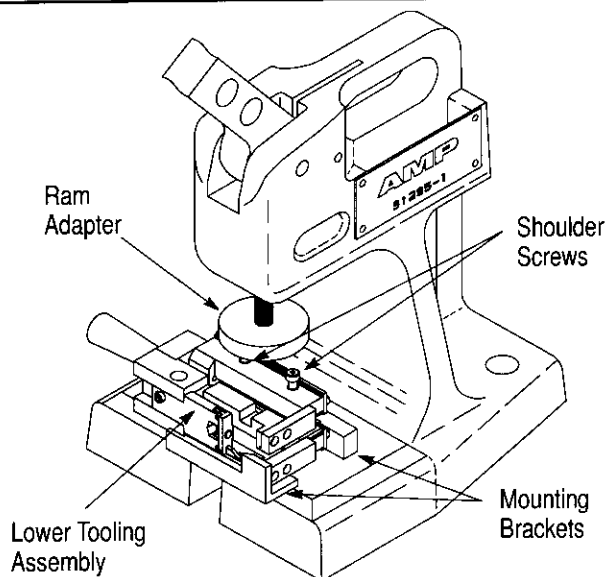

Figure 13
Once the connector positioner is in place (with the loaded connector), the lower tooling assembly is removed from the bench mount and positioned on the manual frame assembly, as shown in Figure 13. The manual frame assembly is then cycled until the ratchet releases and the handle returns to its original position. When cycled, the ram adapter applies the required pressure to the shoulder screws of the lower tooling assembly, causing the insertion bars to insert the wires into the connector. At this point, the connector is terminated.
1. Assemble the Ram Adapter (upper tool) onto the ram by turning the threaded portion into the ram of the frame. (See Figure 13).
3. Slide the positioner onto the lower tooling assembly and place entire assembly onto the base of the arbor, between the mounting brackets as shown in Figure 13.